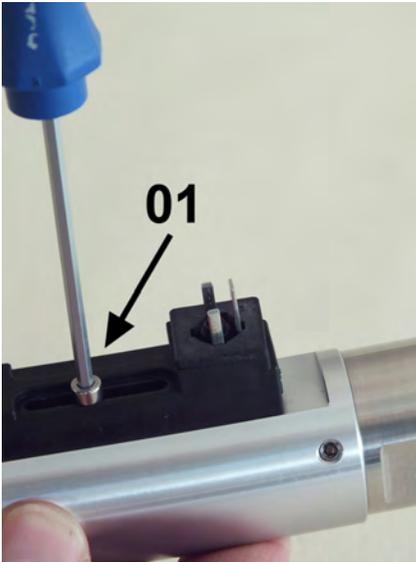

Fig. 55: Loosen set screw
- 3.** ➤ Using a hex screwdriver (Fig. 55/01) remove the set screw of the switch contact
- 7.** ➤ Insert set screw (Fig. 55/01) and tighten it slightly so that the switch contact can still move easily
- 9.** ➤ Retighten the set screw (Fig. 55/01) observing the proper tightening torque ( Chapter 11.1 "Tightening torque" on page 75).